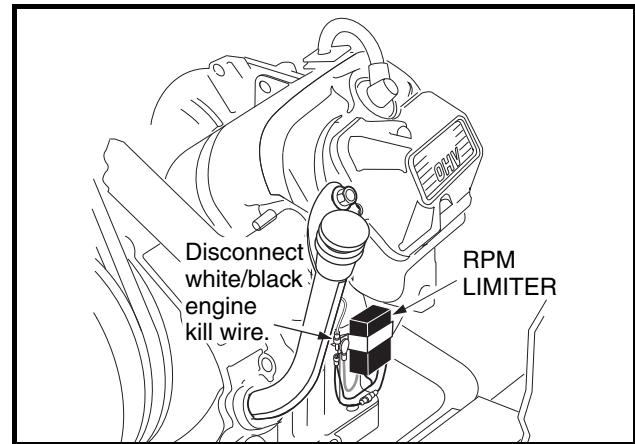

Figure 11-24 Disconnect White/Black Engine Kill Wire
2. Disconnect the engine-kill white/black wire at the bullet connector located next to the RPM limiter (Figure 11-24, Page 11-24).
3. Disconnect white/black wire bullet connector located at the engine RPM limiter (**Figure 11-24, Page 11-24**).